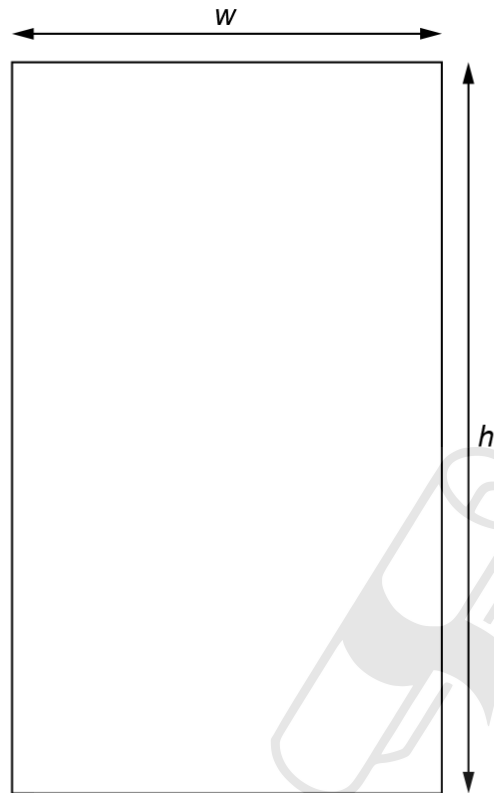

Fig. 1.1
Figs. 1.1 and 1.2 show the dimensions of the block.
- (a) (i) On Figs. 1.1 and 1.2, measure the height h , width w and depth d of the block.